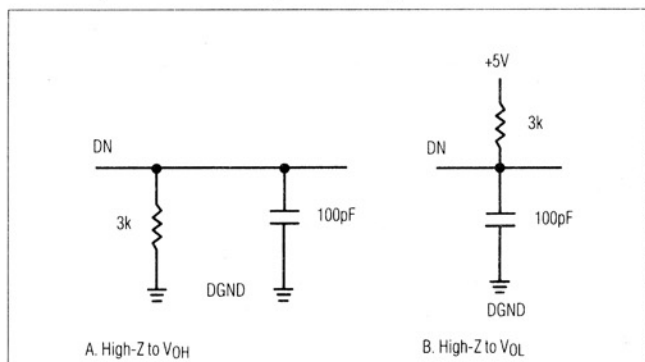

Figure 1. Load Circuits for Data-Access Time Test
**Note 7:**  $t_3$  and  $t_6$  are measured with the load circuits of Figure 1 and defined as the time required for an output to cross 0.8V or 2.4V.